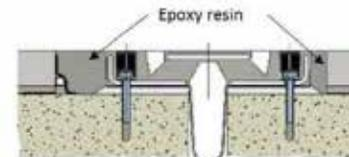

Figure 10 : Fill in the transition zone
- Fill in the transition zone (refer to Photo 8 and Figure 10) with approved epoxy resin (Fresysiflex Sb or equivalent).